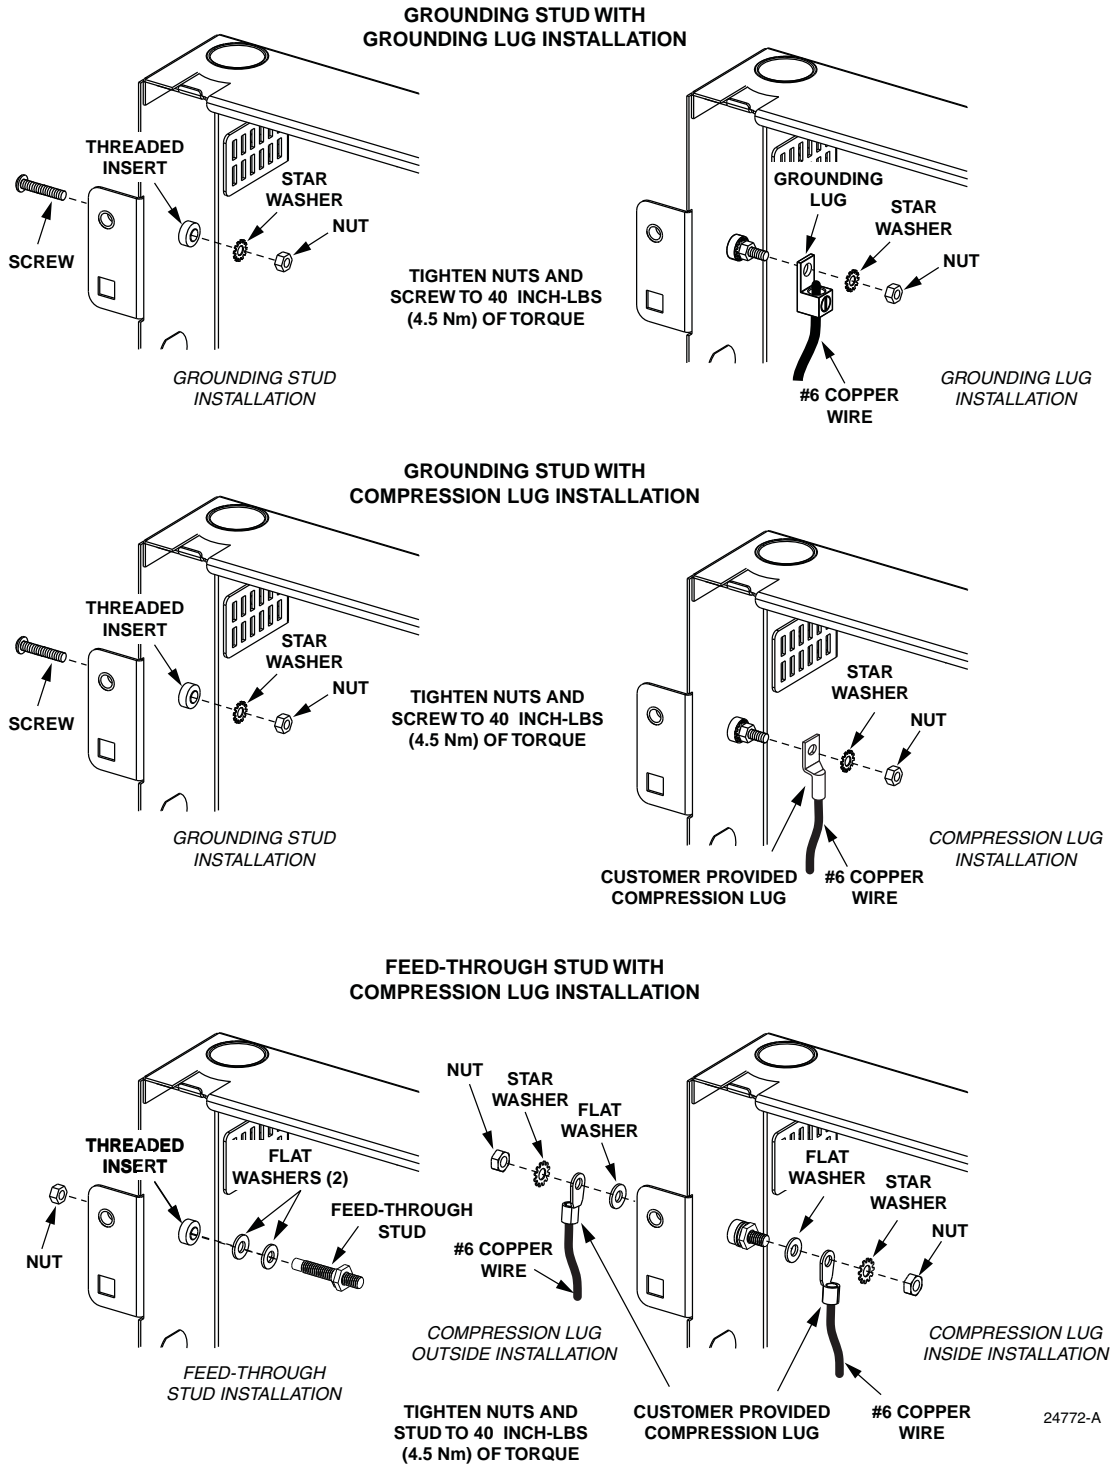

Figure 3. Typical Grounding Lug Installation
4. Install the required grounding components as shown in Figure 3. Tighten all nuts, screws, and studs to 40 inch-lbs (4.5 Nm) of torque.